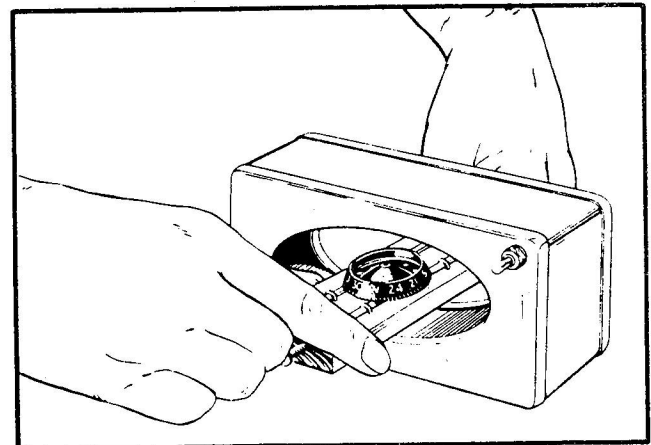

Figure 2-7. Remagnetizing Card Magnets
In most cases, replacement of the card assembly will be more practical than attempting to recharge the card magnets. However, card magnets may be recharged, if desired, by using a simple watchmaker's demagnetizer and the improvised card and compensator magnet holder. (See figures 2-7 and 2-2.) Follow the routine described in paragraph 2-19.
2-19. REMAGNETIZING CARD MAGNETS. If it is desired to remagnetize the card magnets, this can be accomplished by using a typical watchmaker's demagnetizer shown in figure 2-7, and the improvised card and compensator magnet holder shown in figure 2-3.
a. Place the card assembly in the card and compensator magnet holder (figure 2-3), with the card magnets bridged between the two pairs of nails, and position the card in the approximate center of the demagnetizer opening. (See figure 2-7.) While holding the card in this position, have a second operator press the switch on the demagnetizer, holding it for an instant, and then releasing it quickly. This demagnetizer operates on alternating current and, due to the nature of the electrical reaction at the instant the switch opens, the card magnets will be magnetized fully, partially, or demagnetized, and the polarity may be reversed. Experience has disclosed that in approximately 5 percent of all cases, the magnets will not be affected; in 47-1/2 percent of all cases, the magnets will be charged with correct polarity; and in 47-1/2 percent of all cases, the magnets will be charged with incorrect polarity. It may be necessary, therefore, to make several trials before the magnets are restored to full strength and correct polarity. Correct polarity of the card can be determined by setting it on the jewel post assembly after each trial and comparing it with the card in the test compass.